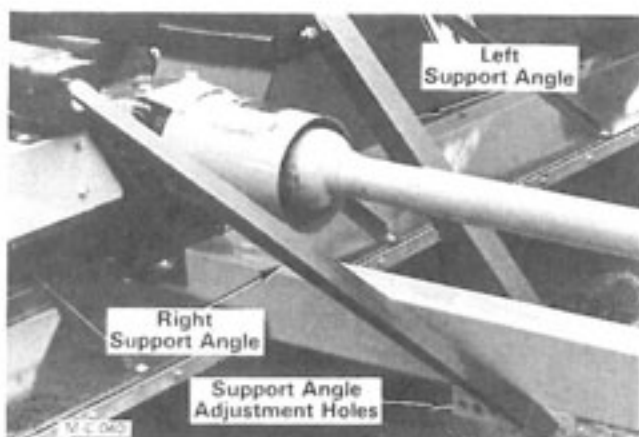

Figure 11
3. The Shredder body must be kept as level as possible from front to rear to insure safe operation and proper shredding action. The Shredder can be leveled by moving the pole support angles forward or back in the pole mounting holes, see Figure 11. Seven (7) holes are provided for adjustment.